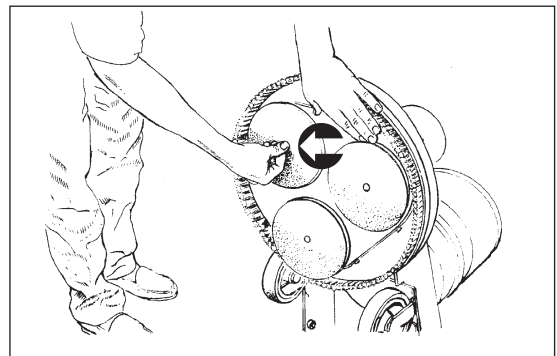

Figure 15
- d.) To remove the existing paper or screen / pad stand to the side of the machine and pull from one edge. The screen may have a plastic pushpin in the center that will require removing prior to the screen's removal. (See Figure 15)